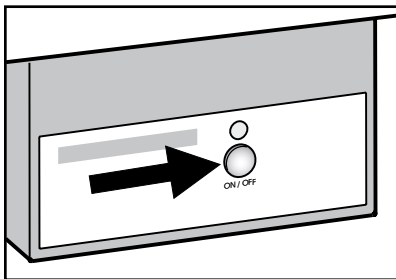

Figure 16
- Press the "ON/OFF" button so the control lamp comes on (**Figure 16**).